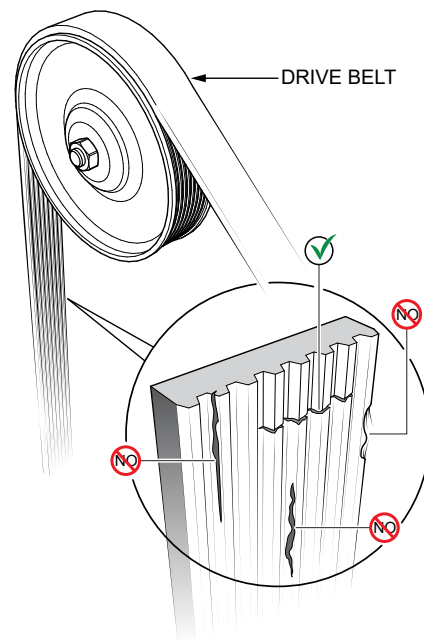

Figure 90. Drive Belt Inspection
1. Inspect the **drive belt** (Figure 90) for damage and wear. Horizontal cracks (across the belt) are acceptable. Vertical cracks (direction of belt ribs) that intersect with horizontal cracks are not acceptable.